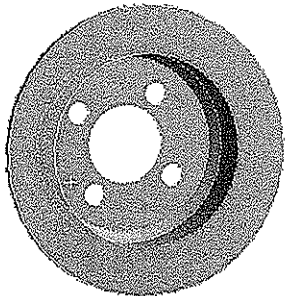

Figure 11-10 Selecting inner faces for applying the Convection load
10. Select the inner faces of the model, refer to Figure 11-10.